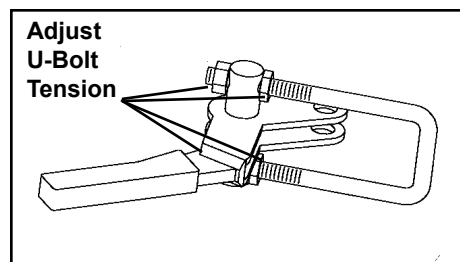

Figure 38
**IMPORTANT:** The lock on the auxiliary pushing attachment must hold the attachment secure. If necessary, adjust tension on U-bolt until a firm locking pressure is achieved. (See Figure 38.)